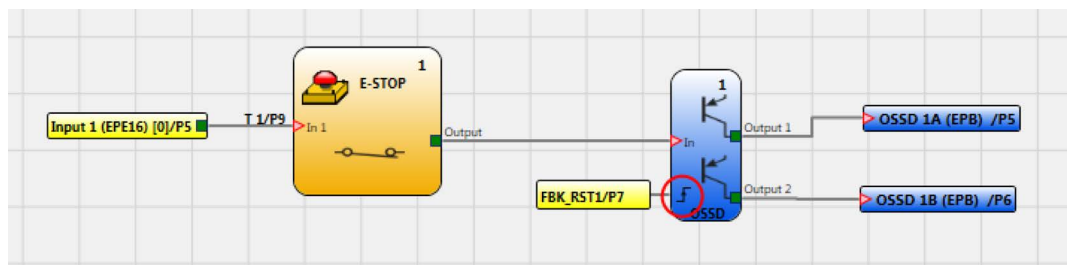

Figure 6
With OSSD 1 in Figure 6, manual start (reset) is activated (red circle).
- specify the diagnostic on OSSD 1A/1B (Figure 6: 192 = first output).